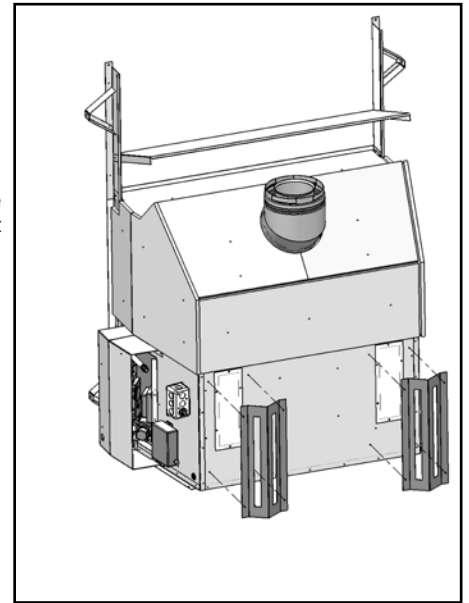

Figure 29: Installation of Back Stand-Offs.
2. Using eight (8) T20 screws provided, attach both back stand-offs, as shown in Figure 29.